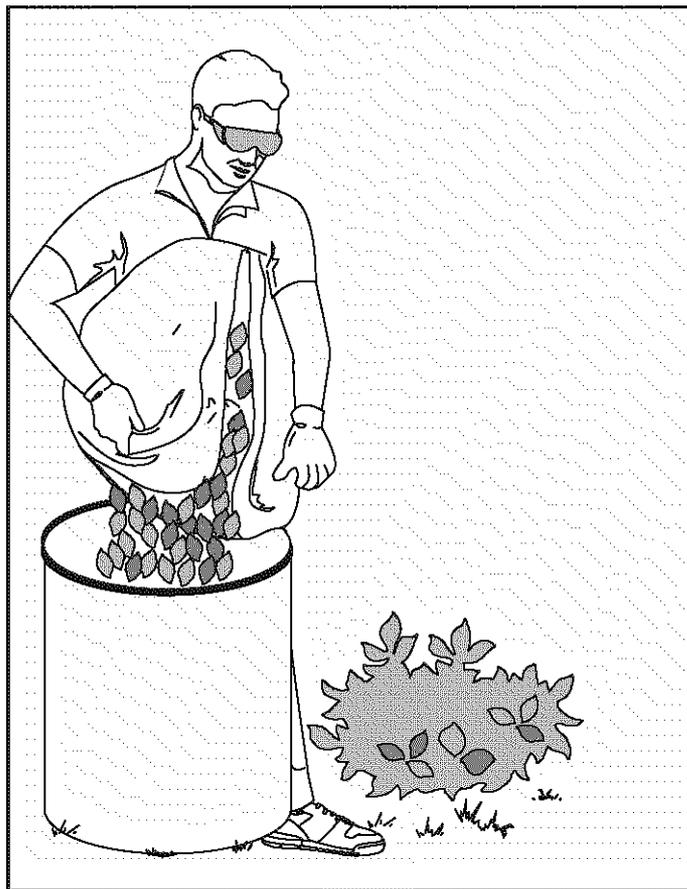

Fig. 9
2. Disconnect unit from power source before removing bag. Once removed, shake the bag vigorously while emptying to completely remove the contents. (Fig. 9)